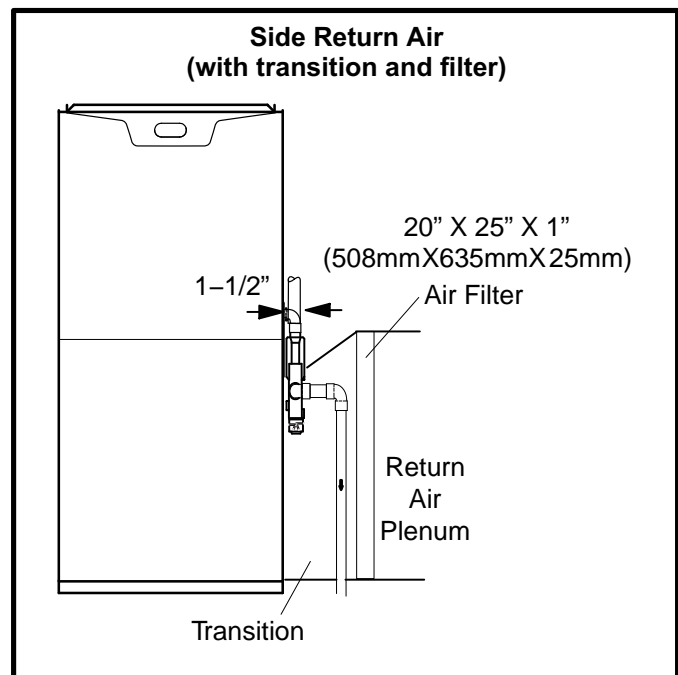

FIGURE 13
**ML193UH applications which include side return air and a condensate trap installed on the same side of the cabinet (trap can be installed remotely within 5 ft.) require either a return air base or field-fabricated transition to accommodate an optional IAQ accessory taller than 14.5". See figure 13.**